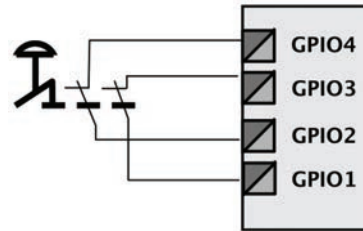

Figure 8: Connecting an emergency stop
as well as the requirements of the safety analysis. It is essential that the components contain 2 force guided, normally closed (NC) contacts (Figure 8), and that they are approved for the relevant safety level or category.